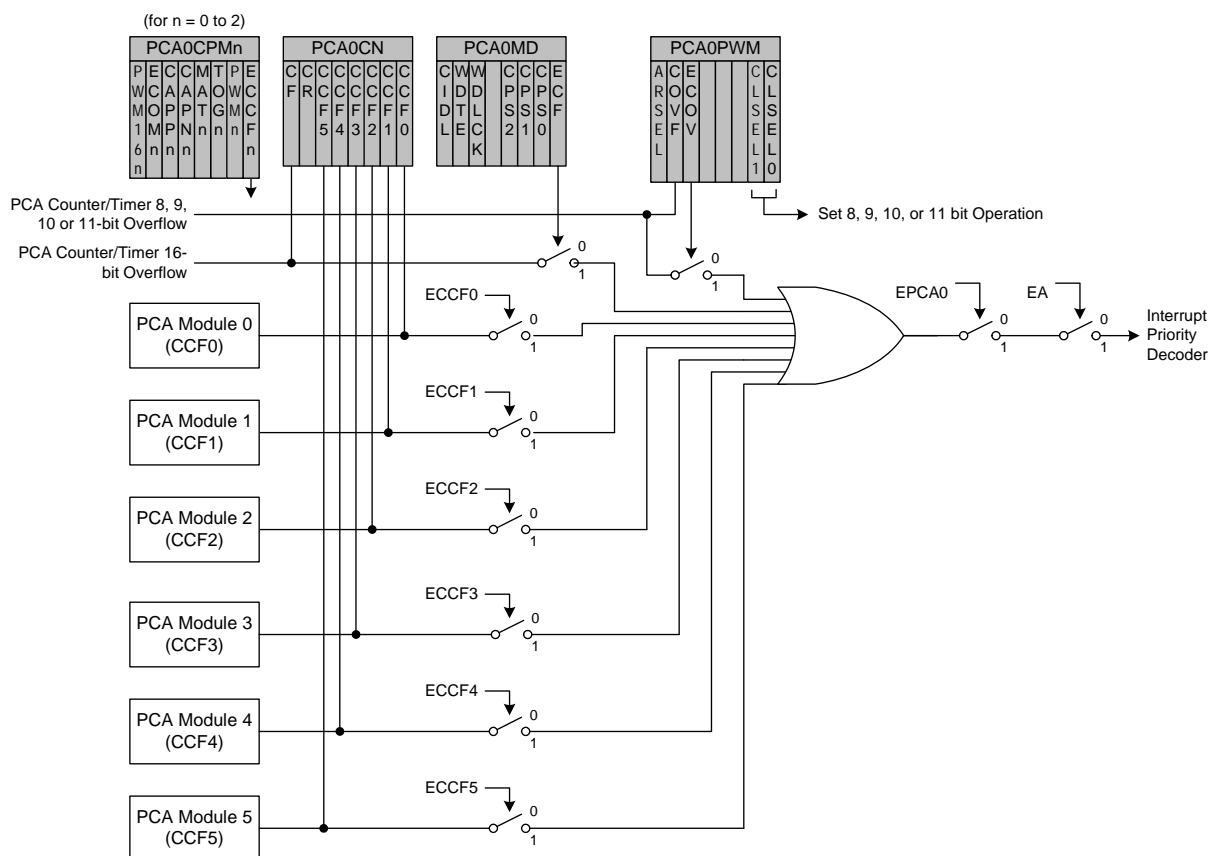

Figure 26.3. PCA Interrupt Block Diagram
Figure 26.3 shows a diagram of the PCA interrupt tree. There are five independent event flags that can be used to generate a PCA0 interrupt. They are as follows: the main PCA counter overflow flag (CF), which is set upon a 16-bit overflow of the PCA0 counter, an intermediate overflow flag (COVF), which can be set on an overflow from the 8th, 9th, 10th, or 11th bit of the PCA0 counter, and the individual flags for each PCA channel (CCF0, CCF1, CCF2, CCF3, CCF4, and CCF5), which are set according to the operation mode of that module. These event flags are always set when the trigger condition occurs. Each of these flags can be individually selected to generate a PCA0 interrupt, using the corresponding interrupt enable flag (ECF for CF, ECOV for COVF, and ECCFn for each CCFn). PCA0 interrupts must be globally enabled before any individual interrupt sources are recognized by the processor. PCA0 interrupts are globally enabled by setting the EA bit and the EPCA0 bit to logic 1.